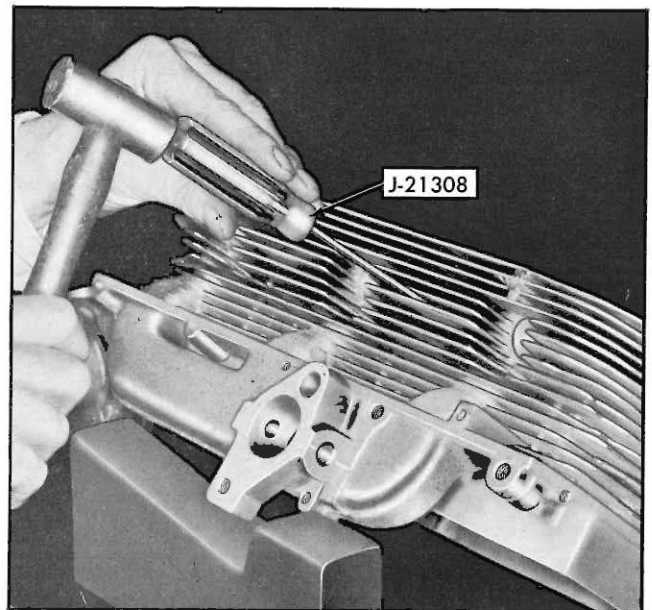

Fig. 4—Cleaning Air Passages Between Fins
1. Inspect the cylinder head for restrictions in the air circulating passages formed by the cooling fins. Casting flash or a build-up of other foreign material that could decrease cooling efficiency can be easily removed from the air passages using the J-21308 Fin Cleaning Tool (Fig. 4).